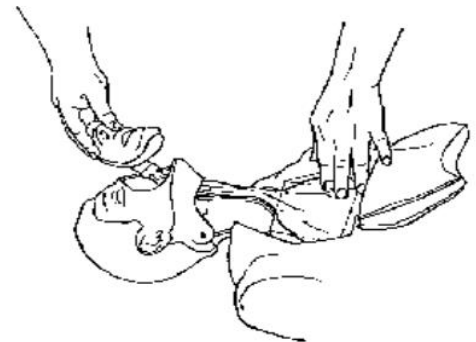

Fig. 4
6. Spread airway over metal compression plate. (Fig. 4)